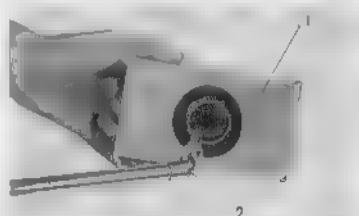

Fig. 5.15 Cleaning air cleaner element
- Tap the cleaner element lightly to loosen the dust and then blow dry compressed air from the inside or use a brush to remove the dust (Fig. 5.15)